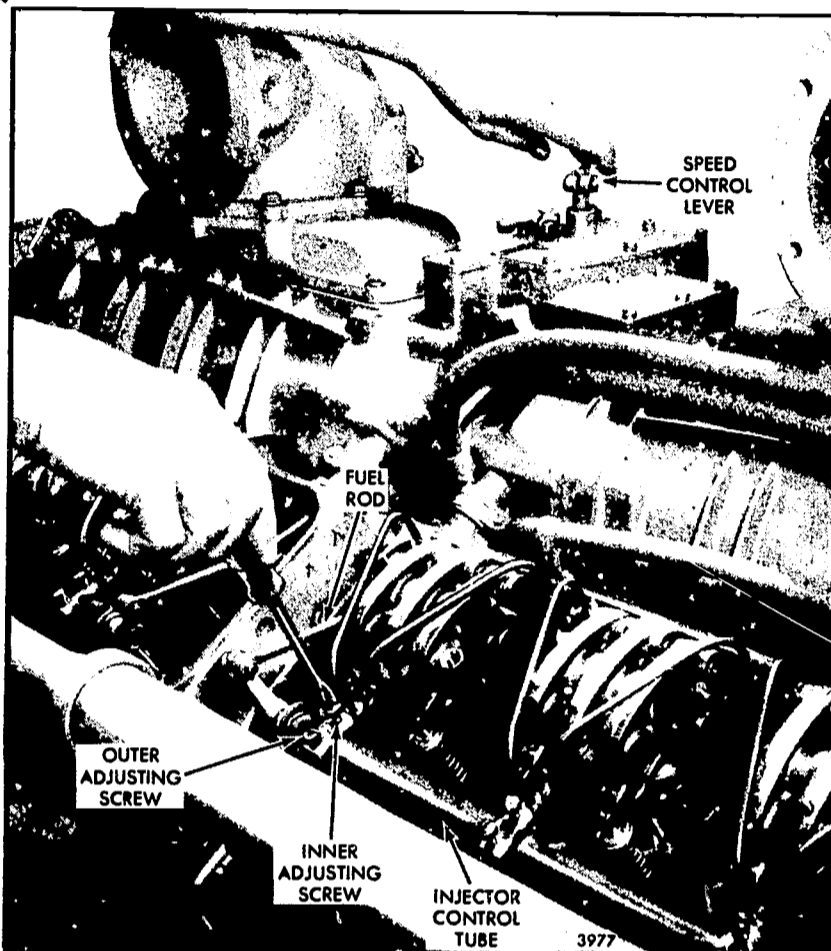

Fig. 14 - Positioning No. 4R injector control lever.
- Step 8. Move the governor speed control lever to the maximum speed position; hold the stop lever in the run position with light finger pressure and adjust the No. 4R injector rack by turning the inner adjusting screw down until a slight movement of the control tube is observed or a step-up in effort is noted, see Figure 14. This will place the rack in full-fuel position. Turn the outer adjusting screw until it bottoms lightly on the control tube. Then, tighten both the inner and outer adjusting screws alternately. Do not set the rack too tight, this may cause the fuel rack to bend.